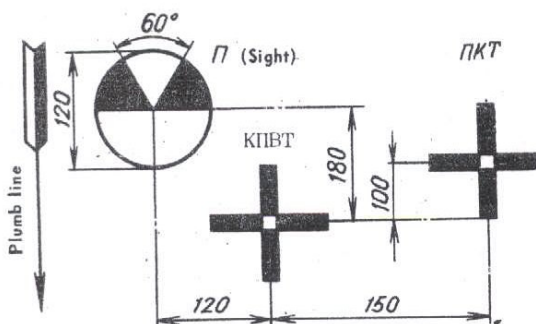

FIG. 138. BORESIGHTING TARGET
4. Install a board at a distance of 100 m from the КНБТ machine gun flash hider. Set plumb the boresighting target (Fig. 138) on the board with its centre at the level of the machine gun barrel horizontal axis. The boresighting target should be properly illuminated, and the source of light must not impede aiming of the machine guns and sight on the crosses and aiming mark of the target.